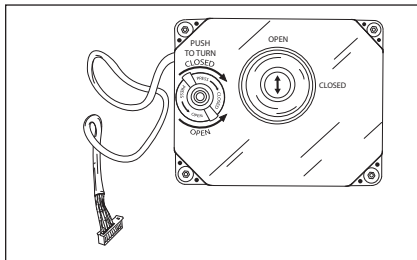

Figure 16 - Install an automatic cold water shut-off on the cold water line near the water heater.
**NOTICE:** An automatic cold water shut-off valve is available to be purchased as an accessory for this hot water storage tank. This is to be installed on the cold water line near the water heater. Make sure the module cable can be easily plugged into the Control Assembly (within 30"/76 cm). See included kit instructions found with the automatic cold water shut-off valve for further installation instructions (Figure 16).